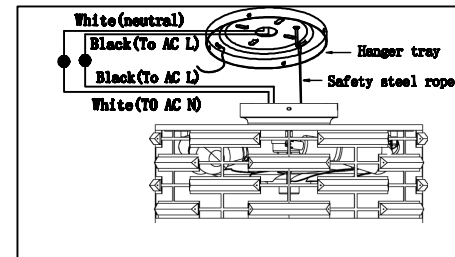

Fig3
1. Before hang the fan host machine on the hook of the hanger tray. (Fig3)